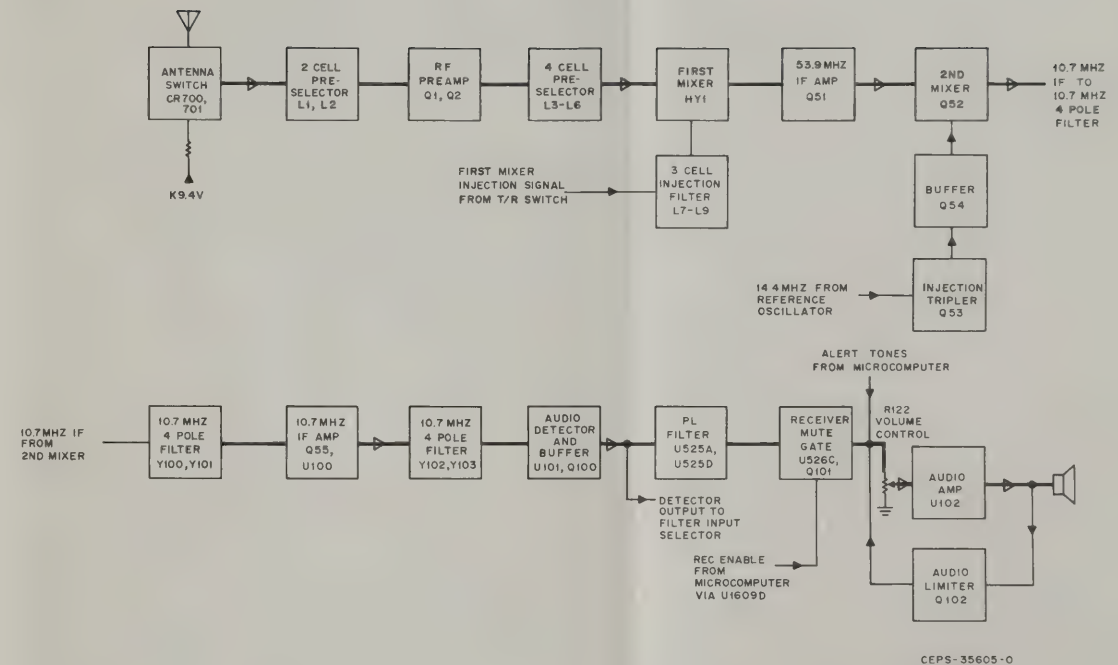

Figure 1. Receiver Block Diagram
1.1 RECEIVER — GENERAL DESCRIPTION (Refer to Figure 1 Receiver Block Diagram)